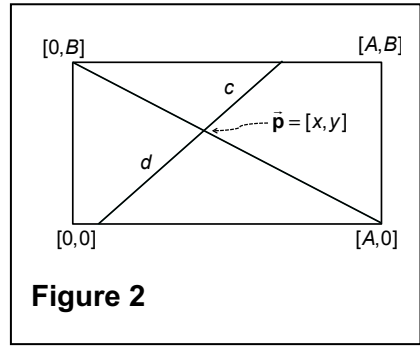

Figure 2
1. Consider the rectangle in Figure 2. A line cuts across the middle of the rectangle and intersects the  $[0,B] - [A,0]$  diagonal at an unknown point  $\vec{p} = [x,y]$ . The lengths of the two segments of this line are  $c$  and  $d$ , as shown. Give a formula for computing  $\vec{p}$ .